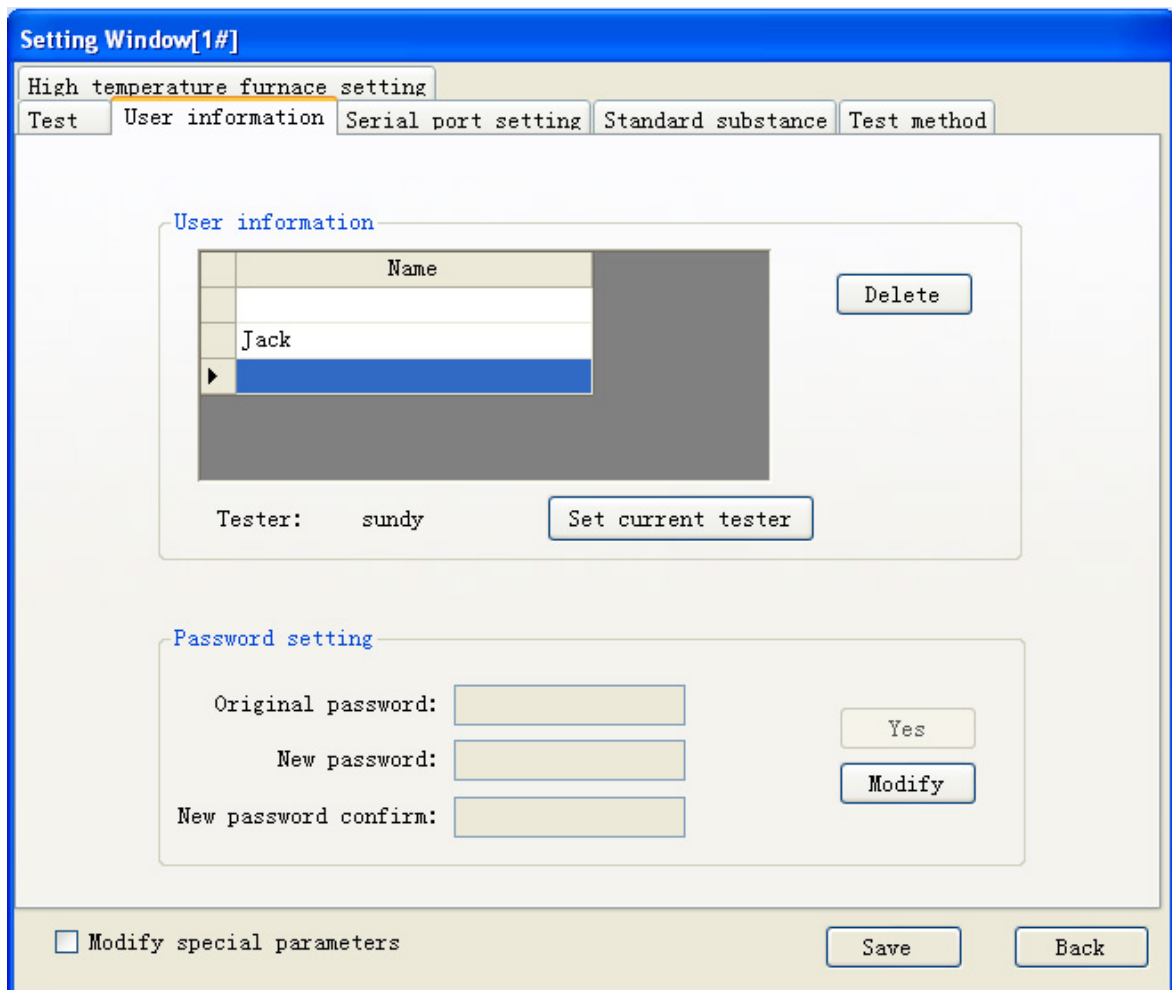

Fig. 4-3-3
**1-1. User:** Click “User Information” on “Setting Window”, window shown in Fig. 4-3-3 will popup.